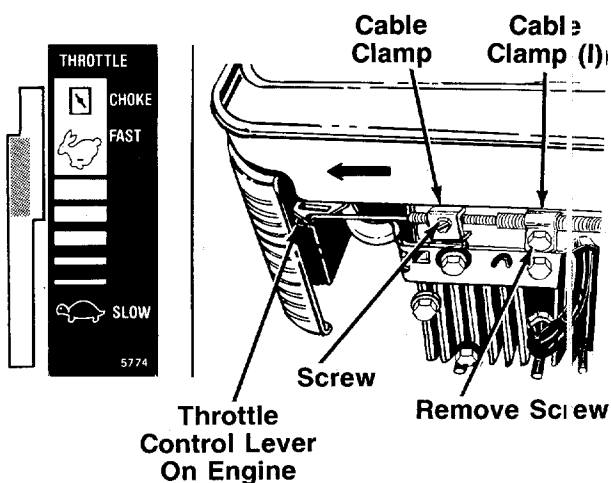

FIGURE 8A.
**Steps 11 through 15 are for standard Briggs and Stratton engines. If your unit is equipped with a deluxe Briggs and Stratton engine (see figure 8A), follow steps 11A through 15A.**
11A. Move throttle control lever on handle forward until it stops in FAST position (**do not** push all the way forward to CHOKE position). See figure 8A.
13A. Using a 7/16" wrench, remove the screw on the engine shown in figure 8A.
14A. Remove the screw on the cable clamp shown in figure 8A. Slip the control casing under the clamp. Replace the screw, but do not tighten (cable must still move freely beneath the clamp).
15A. Slide the throttle control lever on the engine as far toward the outside of the engine as it will go **easily** (just until resistance is felt) as shown in figure 8A. (**Do not** force it into the extreme outside position, which is the CHOKE position.) Tighten the screw to secure the throttle control cable in this position.